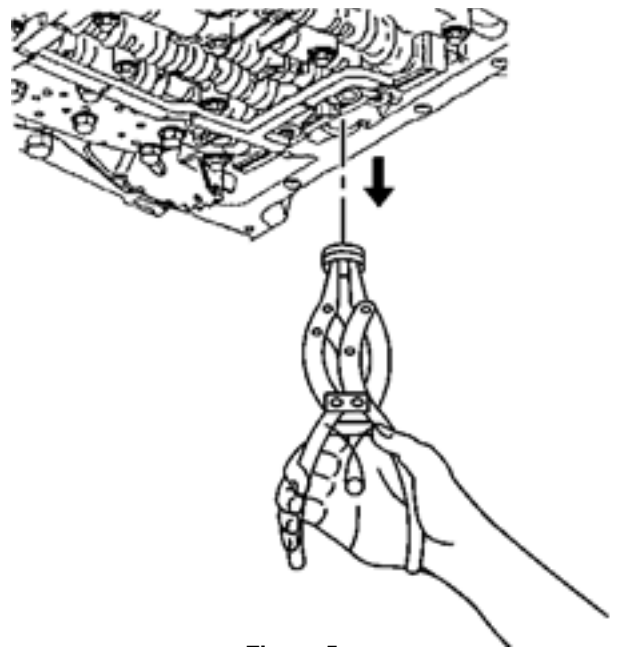

Figure 5
10. If the filter is going to be replaced, remove the filter seal. The filter seal may be stuck in the pump; if necessary, carefully use pliers or another suitable tool to remove the seal. **Reference Figure 5.**